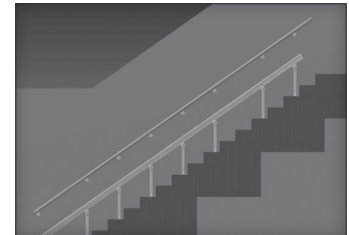

Figure 6-4
**8. Secure the remaining guide rail mounting brackets** to the rail with the threaded bars inside the rail channel. The bottom end of the guide rail should extend at least as far as the bottom end of the rail. [Figure 6-4]